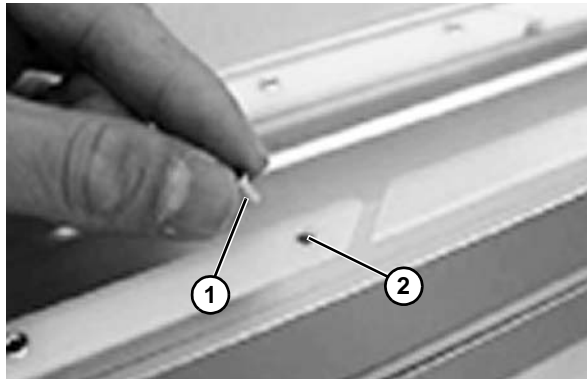

Figure 44
1. Insert the aluminum rivets (**Figure 44, item 1**) into the holes (**Figure 44, item 2**).